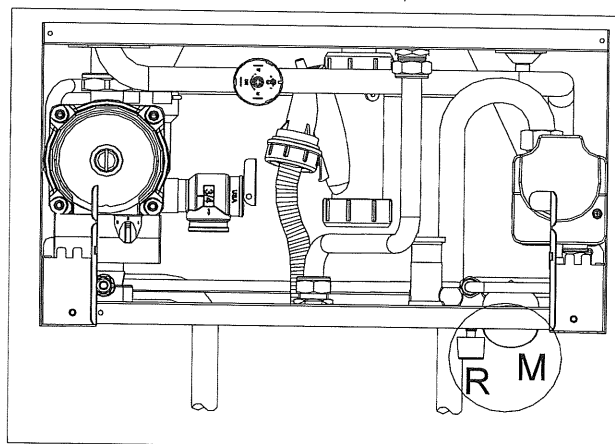

Fig. 2
- Open the filling tap R (fig. 2);
- Use the pressure gauge M (fig. 2) to check that the system pressure reaches 1 bar and that the code H2O does NOT appear on the control panel display (see 2.7 section 'Control Panel');
- turn the system drain tap RS (see fig. 2) and use a container to collect the water that runs out;